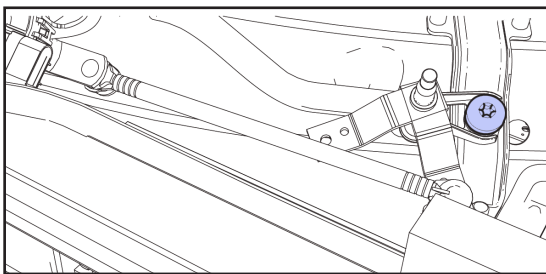

fig. 9c
- c. Remove screw securing wiper motor to bulkhead. Torque - 25 Nm (fig.9c)